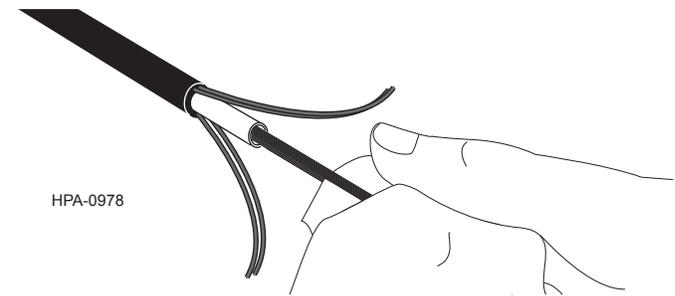

Figure 15
Step 6: If necessary, wipe the ribbons with a dry, lint free cloth or tissue (Figure 15).